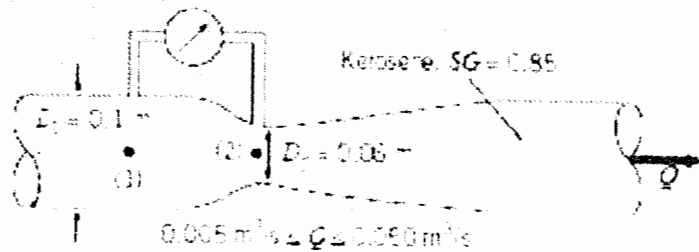

FIG 1
- b) Kerosene flows through the Venturimeter shown in FIG 1 with flow rates between $0.005 \text{ m}^3/\text{s}$ and $0.050 \text{ m}^3/\text{s}$. Determine the range in pressure difference, needed to measure these flow rates. (Specific Gravity of Kerosene = 0.85)